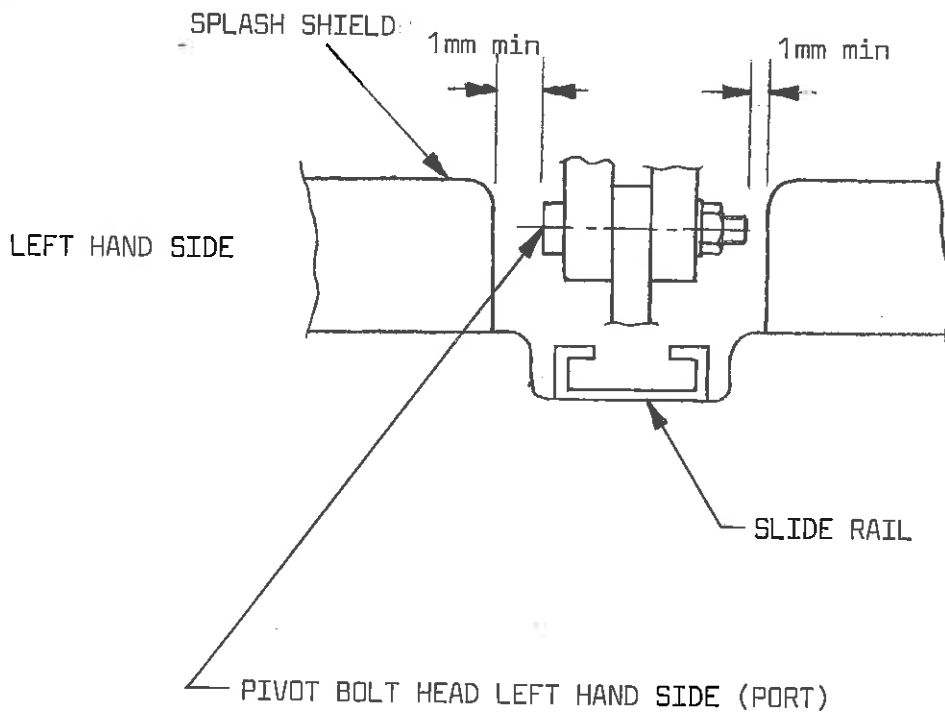

FIG 1 - CANOPY SLIDE RAIL
3. If the clearance is greater than 1mm, ref Fig 1, no further action need be taken. If a foul has occurred or clearance is less than 1mm, a repair is to be invoked to increase splash shield clearance.